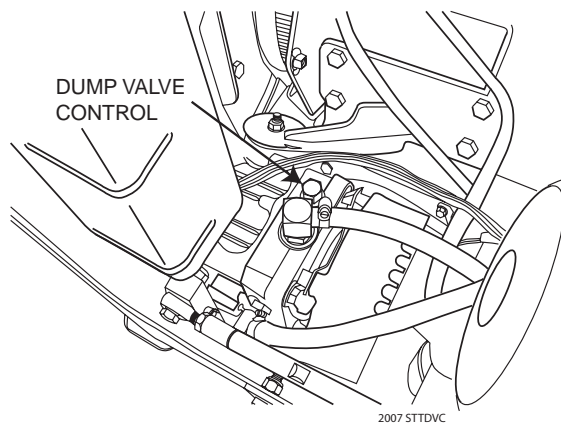

Figure 4-2. Dump Valve Control
13. **Dump Valve Control Levers (Figure 4-2).** Located on the hydraulic pumps, used to "free-wheel" the mower. Rotating the levers clockwise until they stop allows the unit to move under hydraulic power. The levers must be in this position and torqued to 10ft/lbs during operation of the mower. Rotating the levers counter-clockwise allows the mower to be moved by hand (free-wheeling).